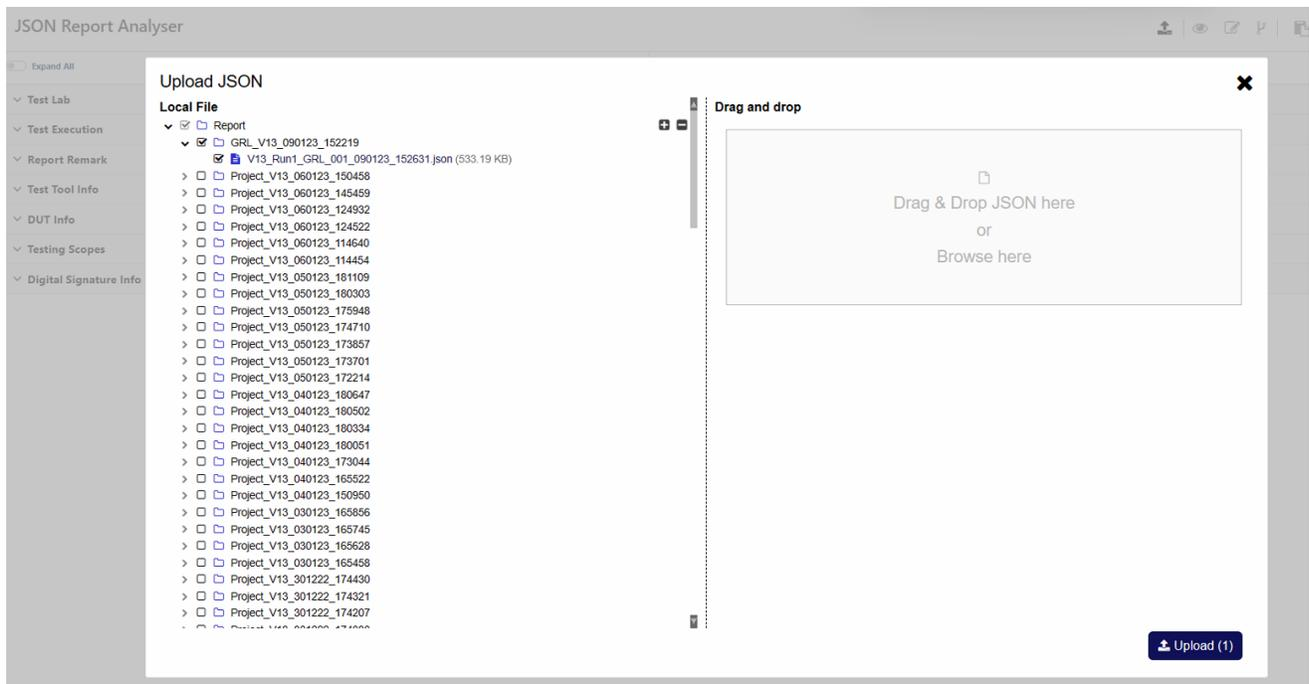

FIGURE 8.83: SELECT JSON FILES TO UPLOAD
2. The following pop-up window will appear as shown in Figure 8.83. The “Local File” panel on the left will show the list of all JSON report files that have been generated from previous test runs and stored in the default file location. The user can select one or more of these files and click on the **Upload** button on the bottom right of the window.